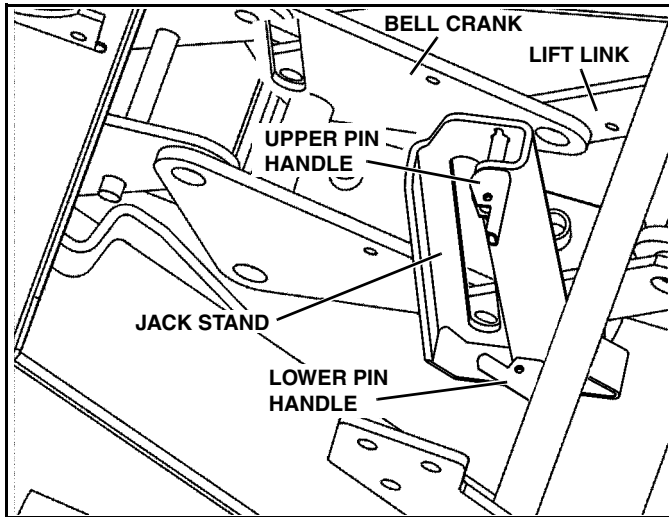

Figure 1-11
6. Disengage both jack stand pins by pulling on handles. Raise the jack stand and engage the bottom pin by pushing on the handle. Make sure pin is engaged in hole by rotating jack stand back and forth. (See Figure 1-11).